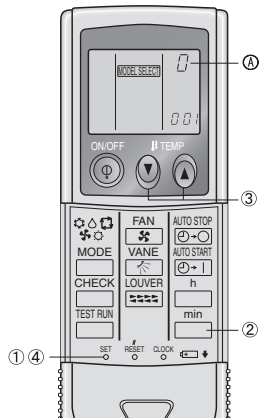

Fig. 6-9
- ① Press the SET button with something sharp at the end. Operate when display of remote controller is off. **MODEL SELECT** blinks and Model No. is lit ④.
- ② Press the AUTO STOP Ⓞ button. **MODEL SELECT** blinks and setting No. is lit ④. (Setting No.01: without automatic fan speed)
- ③ Press the temp. \uparrow \downarrow buttons to set the setting No.02. (Setting No.02: with automatic fan speed) If you mistook the operation, press the ON/OFF Ⓞ button and operate again from procedure ②.
- ④ Press the SET button with something sharp at the end. **MODEL SELECT** and Model No. are lit for 3 seconds, then turned off.
3) Assigning a IR wireless remote controller to each unit (Fig. 6-9)
4) IR wireless remote controller pair number setting operation (Fig. 6-9)
- ① Press the SET button with something sharp at the end. Start this operation from the status of IR wireless remote controller display turned off. **MODEL SELECT** blinks and Model No. is lit.
- ② Press the min button twice continuously. Pair No. "0" blinks.
- ③ Press the temp \uparrow \downarrow buttons to set the pair number you want to set. If you mistook the operation, press the ON/OFF Ⓞ button and operate again from procedure 2.
- ④ Press the SET button with something sharp at the end. Set pair number is lit for three seconds then turned off.
④ Pair No. of IR wireless remote controller	Indoor PC board